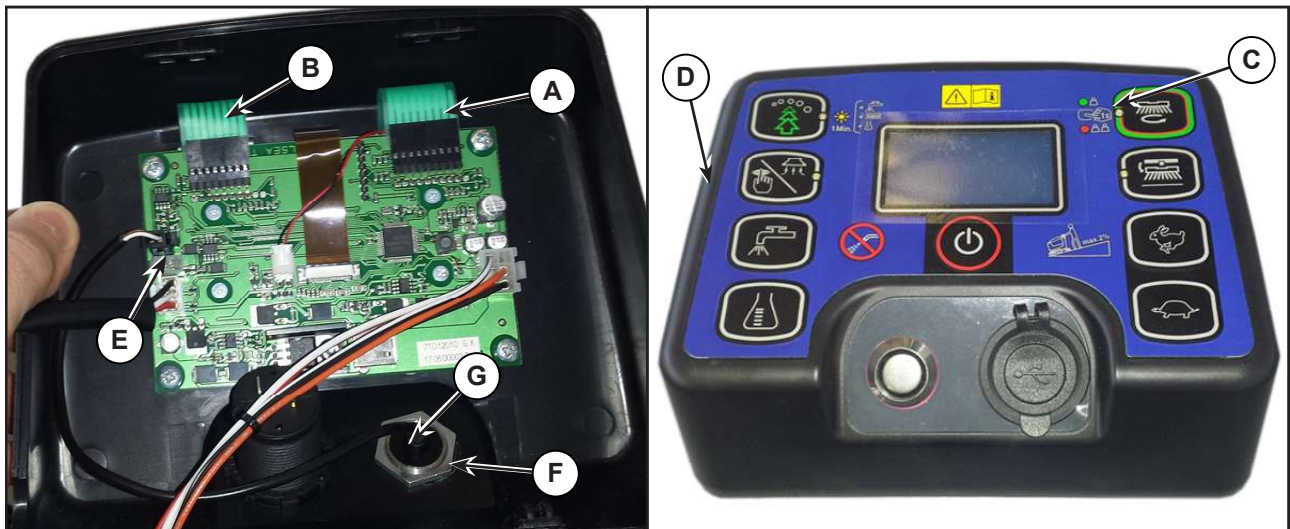

Figure 18:
9. Disconnect the following connections sequentially (Figure 18):
- (A) Flat connection J2.
- (B) Flat connection J3.
10. Carefully raise the User interface controller (C), detaching it from the cover (D).
(Figure 18) Power connections (Ø6mm male RADSOK terminals - AMPHENOL SK 200800532 101 or equivalent)